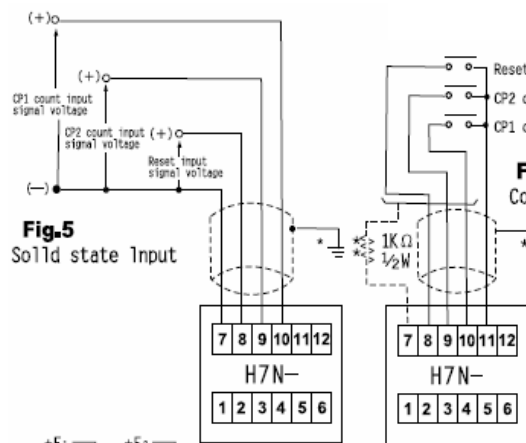

Fig.5
5. U/D C, PHASE DIFFERENCE INPUTx1...**Fig.5**